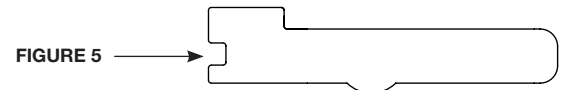

FIGURE 5
6. Insert the spline key fully by tapping into place with a screwdriver using insertion notch, see **Figure 5**.